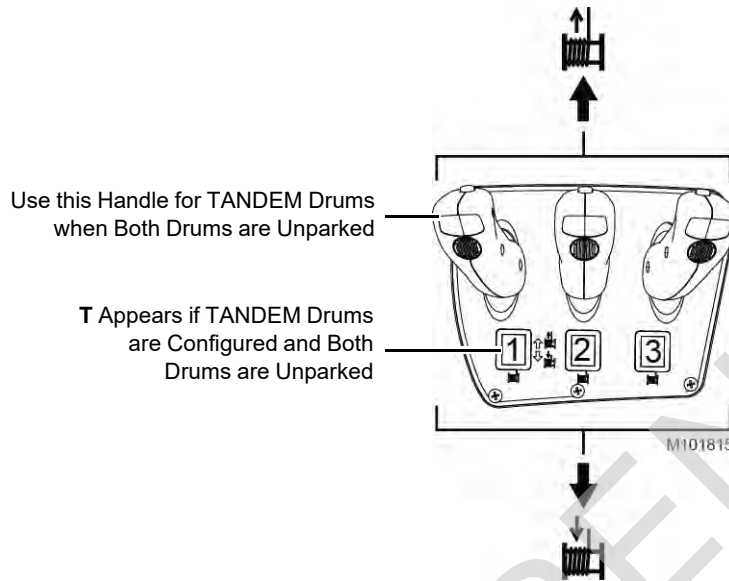

Figure 3-19. Load Drum Control Handles
- With both tandem drums unparked, the left handle on the right console (Figure 3-19) controls both drums simultaneously and automatically adjusts speed to keep the load block level. A **T** appears in the drum identifier.